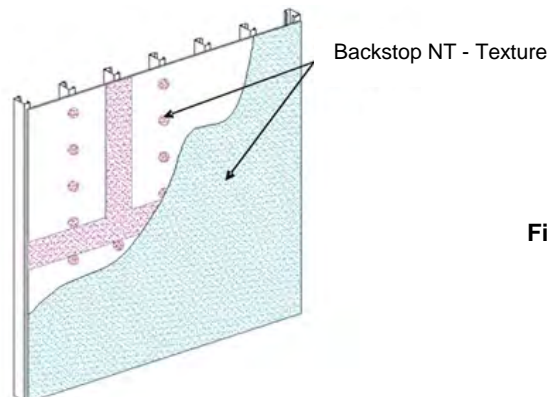

Figure 17
- 3) Use a coarse, open-cell foam roller cover with a 3/8 in (9.5 mm) foam nap (FoamPRO #58 roller). Apply a uniform, continuous film of Backstop NT - Texture over the entire surface of the sheathing, concrete or masonry, including the previously treated areas – Figure 17. **NOTE: If the roller pulls material back out of the sheathing joints, it indicates that the joint material is not sufficiently dry.**